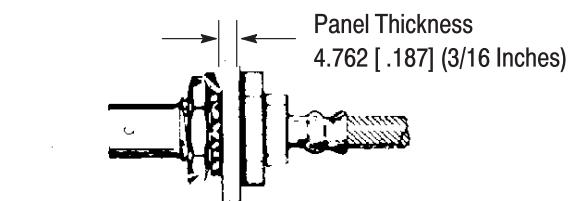

Figure 8
4.2. Bulkhead Jack Connector Assembly (Figure 8)
2. Insert the contacts into the dielectric, making sure that the male contact is permitted to protrude. See Figure 8.